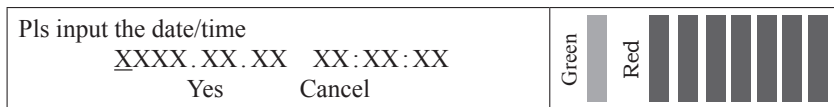

Fig. 8
- (1) Select “Time set” in the parameter setting interface to enter the Time setting interface, see Fig. 8.